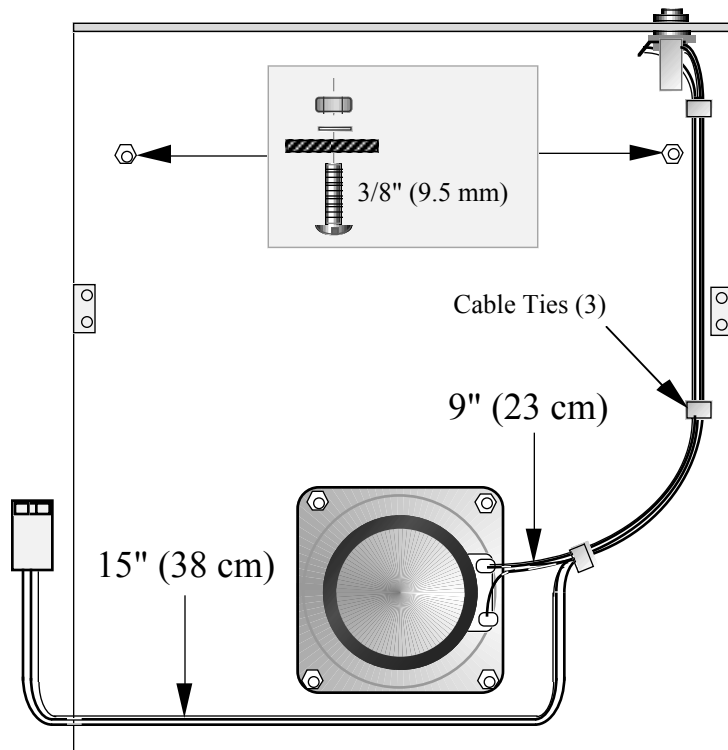
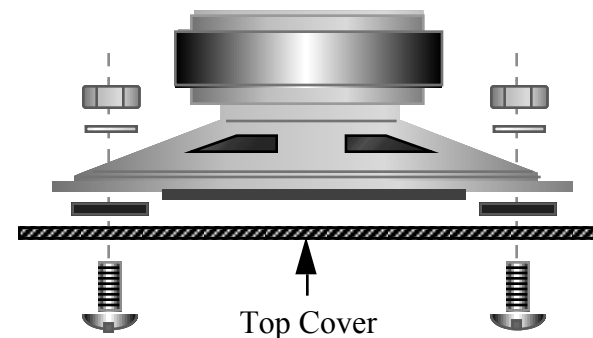
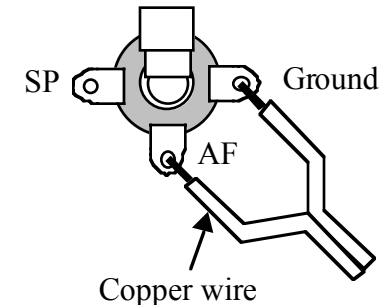

Figure 7-1
Figure 7-2
Figure 7-4
□ Place the top cover upside down as shown in Figure 7-1, with the rear panel facing away from you. The illustration shows how the speaker, 2-conductor cable, external speaker jack and other hardware will be attached to the top cover.
□ Place the speaker on the top cover in the position shown in Figure 7-1. Secure it with four 3/8" (9.5 mm) screws, #4 fibre washers (black), #4 lock washers, and 4-40 nuts (Figure 7-2). Do not over-tighten the nuts, as this can distort the speaker frame.
□ As shown in Figure 7-1, there are two spare holes provided near the back edge of the top cover. Use two 4-40 x 3/8" (9.5 mm) screws to fill these holes, securing them with #4 lock washers and 4-40 nuts. The nuts go on the inside of the top cover. (This hardware is provided to secure the optional internal battery.)
□ Install two 2-D fasteners at the locations indicated in Figure 7-1 (left and right edges). The 2-D fasteners will line up exactly with the edges of the top cover when installed properly. Use two chassis screws per 2-D fastener.
Install the external speaker jack in the hole labeled "EXT SPKR" on the rear panel. Orient the jack as shown in Figure 7-1 and Figure 7-4, with the "AF" tab nearest the inside of the top cover. (**Caution:** Mis-identification of the three tabs could result in an AF output to ground short.)
Connect the other end of this cable to the external speaker jack as shown in Figure 7-4. The copper wire must be connected to the "AF" lug of the speaker jack. Solder only the copper wire.
Use three cable ties at the points shown in Figure 7-1 to hold the speaker cables in place. The ties should be pulled tight. Trim any excess cable tie length.